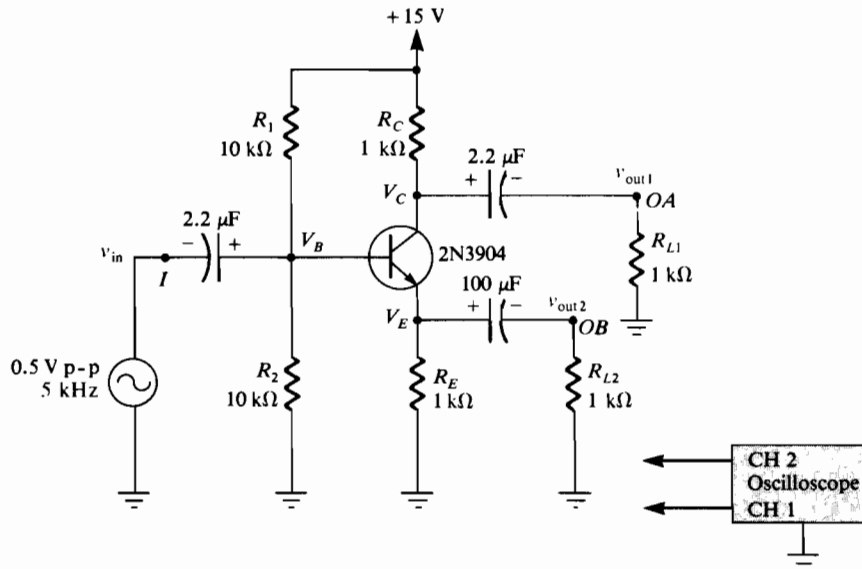

FIGURE 15–1 Schematic diagram of circuit.
1. Wire the circuit shown in Figure 15–1, omitting the signal generator and the power supply.
2. After you have checked all connections, apply the 15-V supply voltage to the breadboard. With a VOM or DMM, individually measure the transistor dc base, collector, and emitter voltages with respect to ground, recording your results in Table 15–1. Based on the resistor values of Figure 15–1, determine the expected values of these three voltages (Equations 6, 7, and 9), assuming a base-emitter voltage drop of 0.7 V, and compare them with the measured values in Table 15–1.
the circuit as shown in Figure 15–1, and adjust the sine wave output level of the generator at 0.5 V *peak-to-peak* at a frequency of 5 kHz.